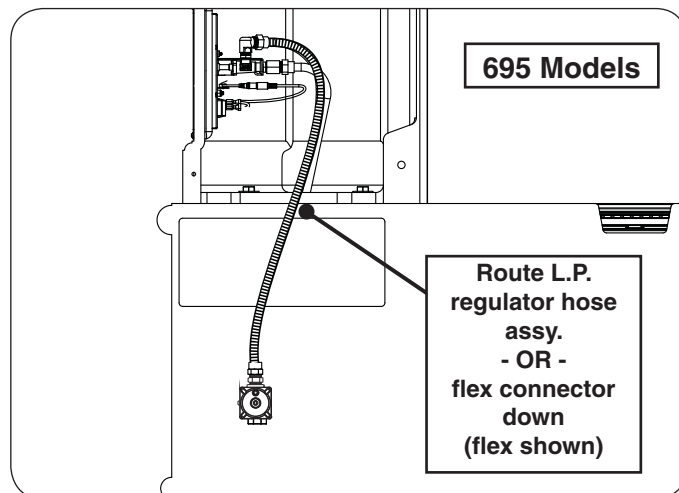

Fig. 21-1 Route L.P. hose OR flex down into hearth
1. Locate the flex connector or L.P. regulator hose assembly that is already installed on the rear of the valve assembly. Route it down through the hole in the hearth. See Fig. 21-1.